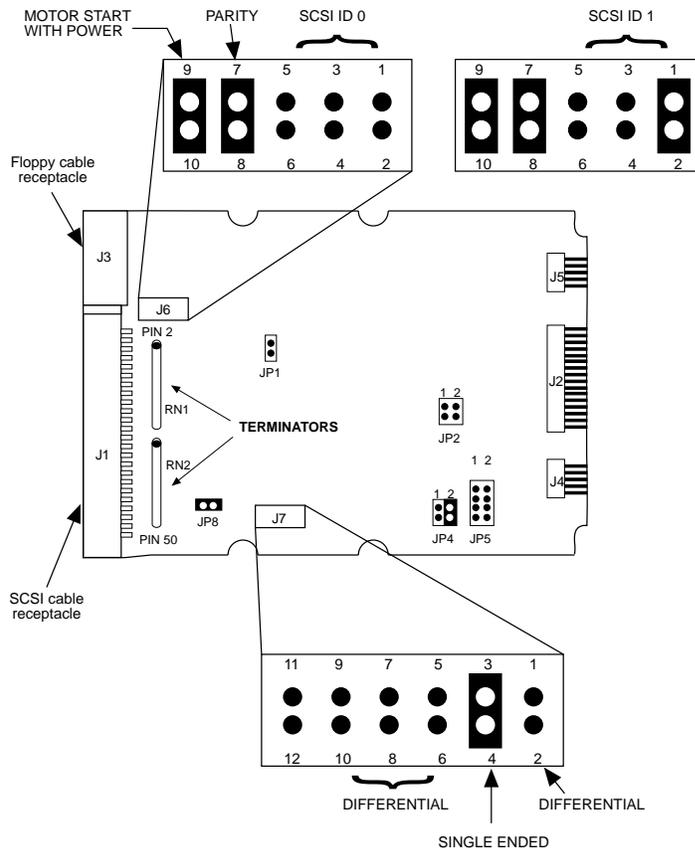

Figure 10-4. Jumper Settings for the 1.2-Gbyte SCSI Hard Disk Drive
- If you are installing a 1.2-Gbyte SCSI disk drive, refer to Figure 10-4 for the jumper settings.